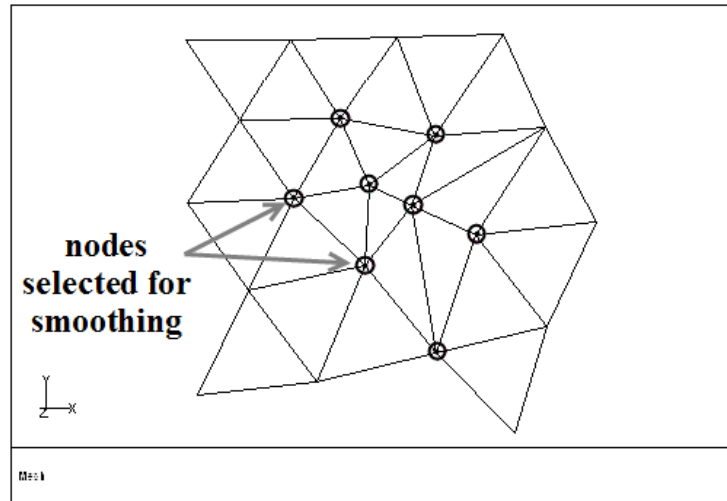

Figure 1.18: Nodes Selected for Smoothing
- (e) Select the nodes in the vicinity of the swapped edge (Figure 1.18).